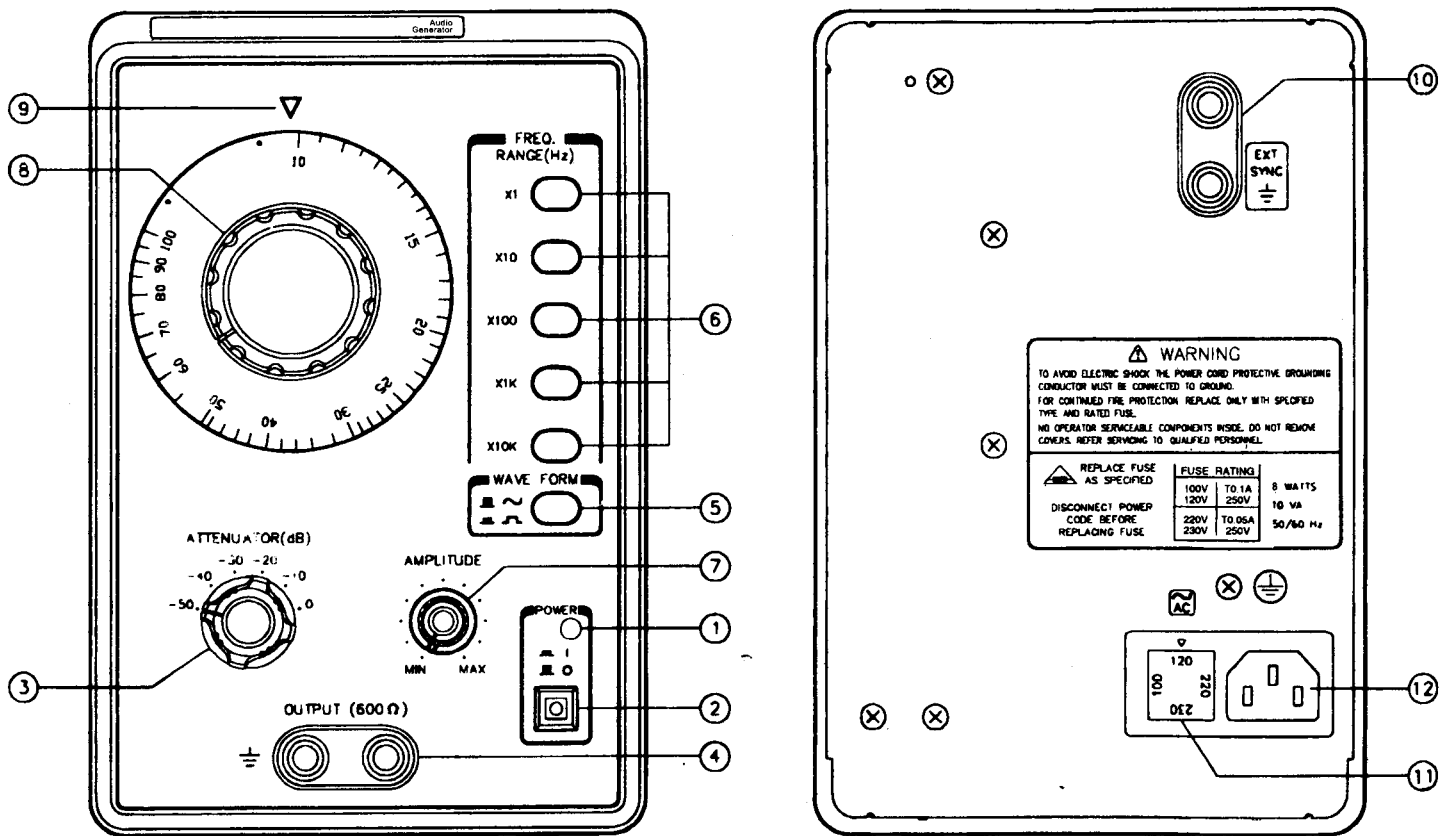

Fig.2
- Casing: 200(W) $\times$ 340(D) $\times$ 270(H) mm
- Overall(include knobs): 130(W) $\times$ 295(D) $\times$ 210(H) mm
- External view: See Fig.2
The table below describes the functions of panel controls. Refer to the panel diagram (Fig.2).